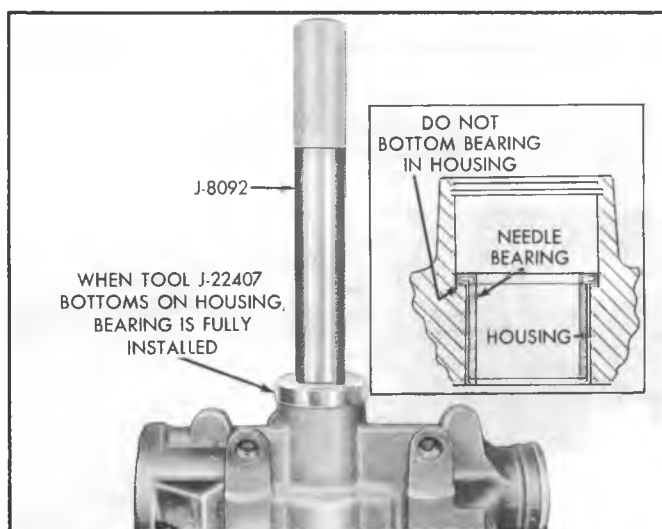

Fig. 51--Installing Pitman Shaft Bearing
1. If the pitman shaft needle bearing was removed, place bearing Installer Tool J-22407 onto Handle J-8092. Place needle bearing (shouldered end first) on to Tool J-22407. Press bearing into gear housing until Tool bottoms on housing. The bearing is now correctly positioned (fig. 51).